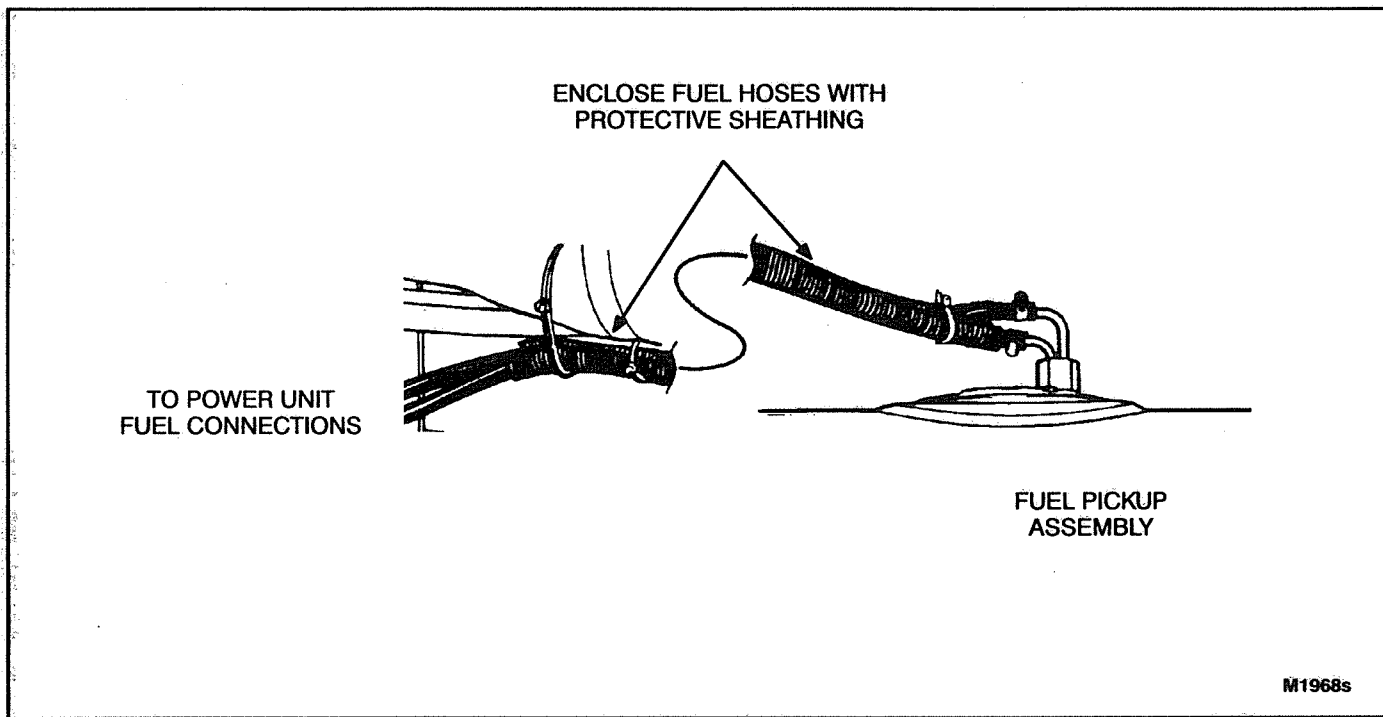

FIGURE 10-5. FUEL HOSE PROTECTION
2. Route the fuel supply hose to the fuel supply connection on the the power unit (Figure 10-5). Connect the supply hose with a hose clamp to the supply fitting (supply hose routes to the fuel pump). Route the other end of the supply hose to the fuel tank pickup tube assembly. Connect it to the supply line of the pickup assembly.